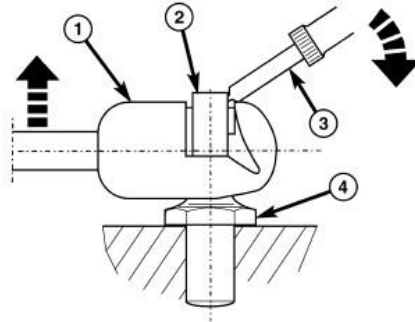

Figure 2
- Using a small pick or screwdriver, pry out on the metal spring clip (**Figure 2, #2**). Pull the air spring head (**Figure 2, #1**) away from the ball stud (**Figure 2, #4**) while the spring clip is pulled away. Disconnect the air spring from the bracket only and leave attached to frame rail. Rotate forward out of the way.